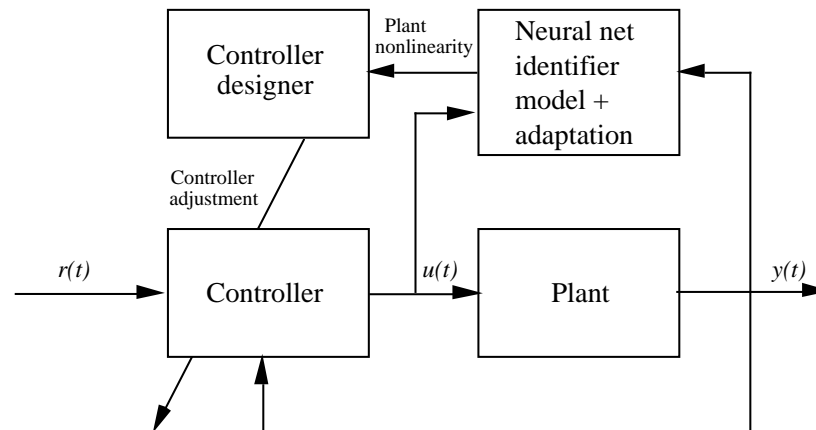

Figure 17: Indirect adaptive control via a neural network.
- Most common approach shown in Figure 17 where we use a neural network as the identifier model and, for example, a gradient method for updating it.